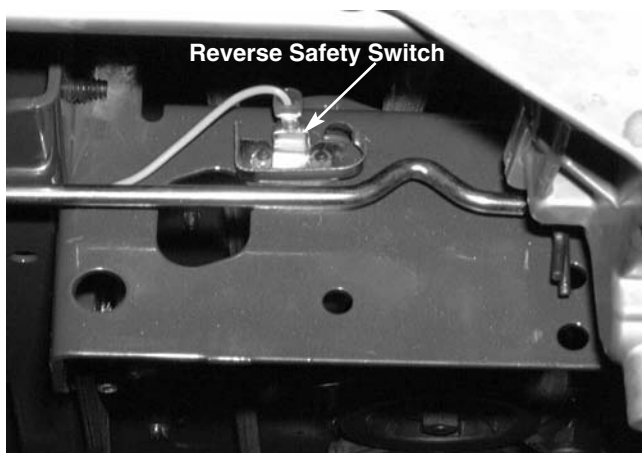

FIGURE 1.
- 6). Disconnect the reverse safety switch. See figure 1.